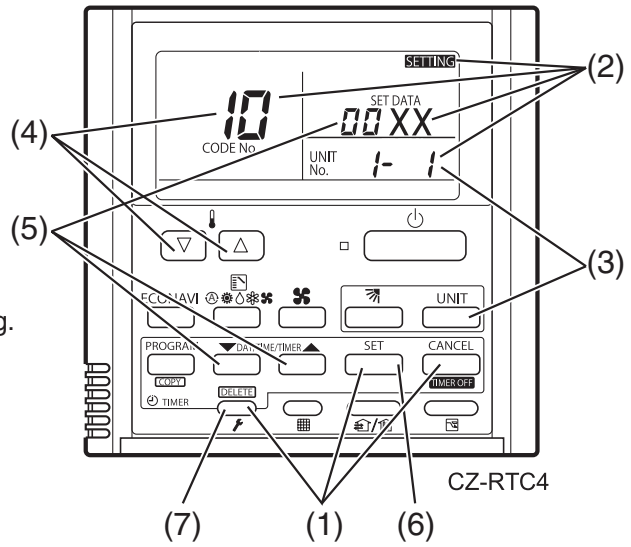

Fig. 7-2
- (1) Press and hold the ,  and  buttons simultaneously for 4 seconds or longer.
- (2) "SETTING", unit No. "1-1", item code "10," and settings data "00XX" are displayed blinking on the remote controller LCD display (Fig. 7-2). At this time, the indoor unit fan begins operating.
- (3) If group control is in effect, press the  button and select the address (unit No.) of the indoor unit to set. At this time, the fan at the indoor unit begins operating.
- (4) Press the temperature setting  /  buttons to select the item code to change.
- (5) Press the timer time  /  buttons to select the desired setting data.
- (6) Press the  button. (The display stops blinking and remains lit, and setting is completed.)
- (7) Press the  button to return to normal remote controller display.